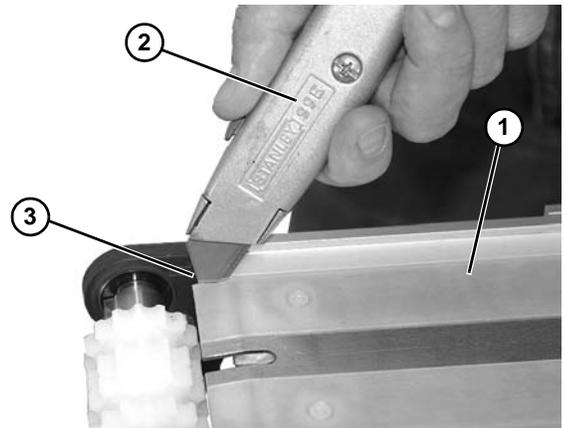

Figure 56
5. Install new wear strip (Figure 56, item 1).
6. Using a utility knife (Figure 56, item 2), cut out notch in each corner (Figure 56, item 3).